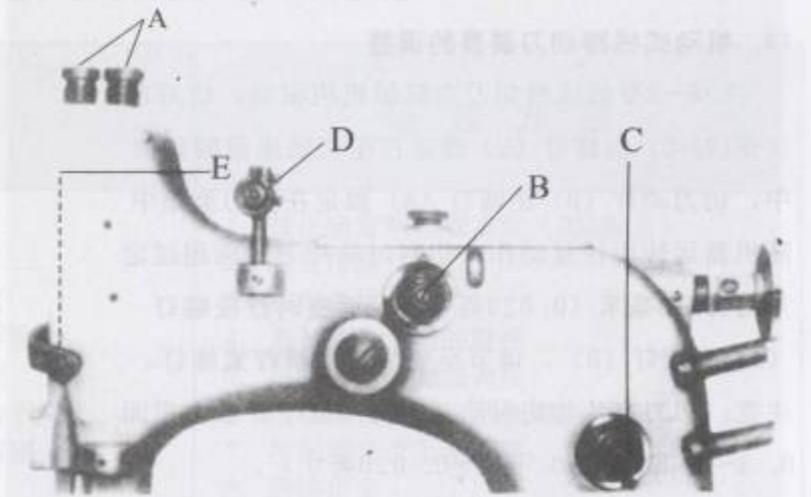

图 10 Fig.10
压脚压力的大小, 取决于缝料的厚度, 缝薄料时减少压力; 反之, 则增大压力。当缝料推送顺畅, 针迹均匀时切勿再增大压力, 以减缓机件磨损。调节压力时旋进两只调压螺套(图10, A)可增大压力, 旋出则减少压力。
GK35-2C型的压脚压力大小由上盖板上的调节螺钉(图10, F)进行调节。调节时拧松锁紧螺母(图10, G), 旋进调节螺钉(F)可增大压力, 反之则减少, 调整后再拧紧锁紧螺母(G)。
The presser foot pressure of styles GK35-2D and GK35-6D can be adjusted with adjusting screw (F, Fig. 10) on the upper cover plate. When adjusting, loosen lock nut (G, Fig. 10), turn adjusting screw (F) to increase pressure, and turn out to decrease pressure. Retighten lock nut (G) after adjusting.
缝线张力由夹线器(图10, B、C)调节, 通常面线(B)张力要比底线(C)的张力大。旋近夹线器螺母(B、C)使张力增大, 旋出则减少。
Thread tension is adjusted by thread tension assembly(B. C. Fig. 10). Tension of upper thread(B) is generally stronger than that of lower thread (C). Turn thread tensioner nut (B. C) in to increase the tension, turn it out to decrease the tension. If the stitch is still not good, should adjust the height of thread adjusting bar (D). The height of the thread adjusting bar (E) is at the same level with the thread eye of the needle bar connection at its highest position.